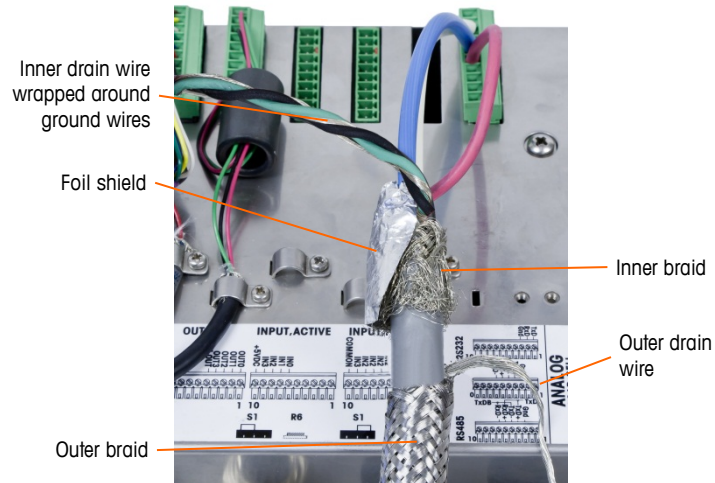

Figure 2-67: POWERCELL PDX Home Run Cable, Panel Mount Enclosure
- a. Slide back the outer braid and fold the trimmed inner braid and foil shield back evenly over the edge of the cable insulation sheath, as shown in Figure 2-67.